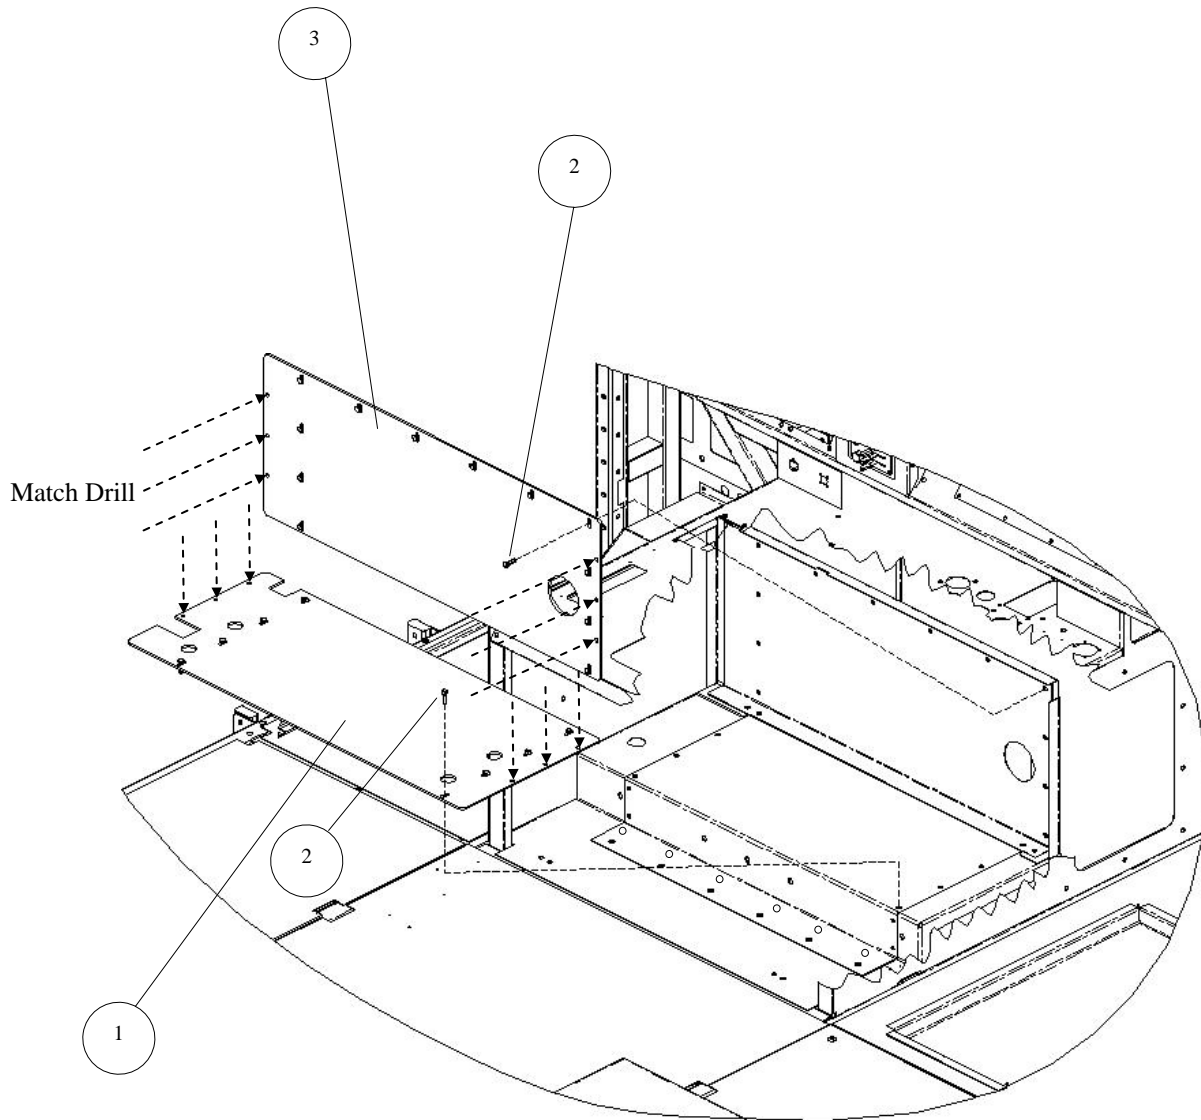

Figure 3-41. Match-Drill Doghouse.
3. Match-drill doghouse as follows (see Figure 3-41):
- b. Install doghouse bottom panel (1) onto doghouse floor panel and temporarily secure with eight bolts (2). Tighten bolts for temporary use.
- d. Install doghouse panel (3) against doghouse back-wall panel and secure with 12 bolts (2). Tighten bolts for temporary use.